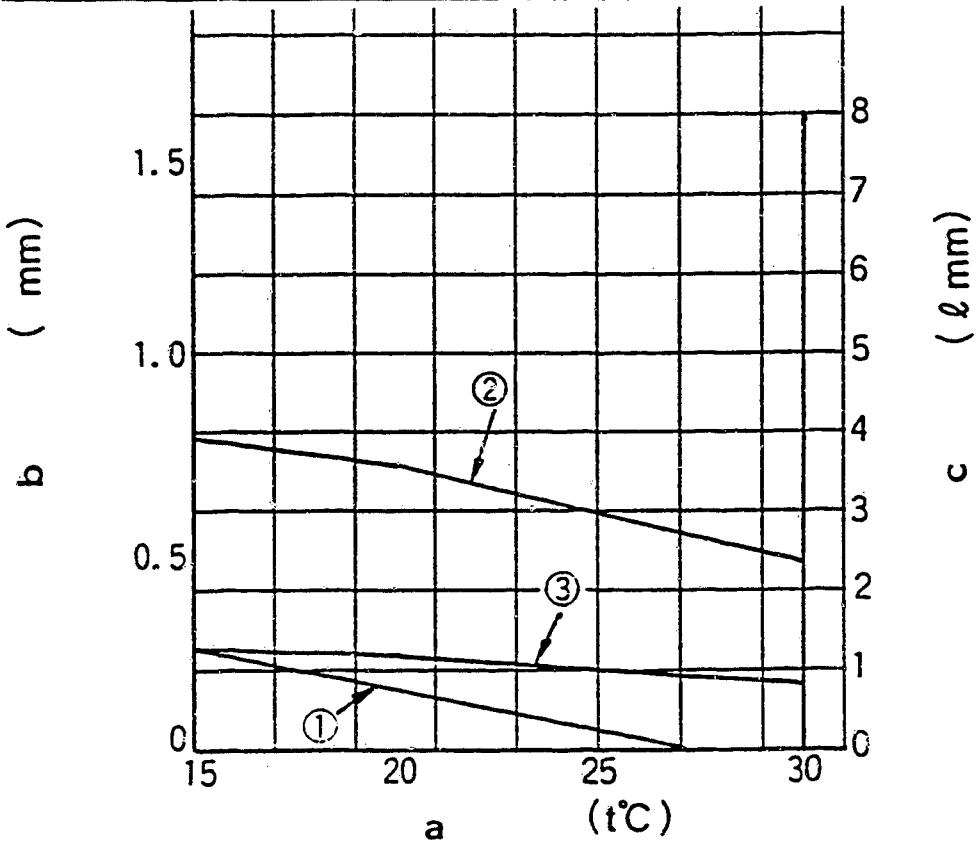

Figure 22
1) Calculate the timer stroke from Fig. 22 according to the atmospheric temperature at the time of adjustment.
- 1) Calculate the block gauge dimension $l \pm 0.05$ mm from Fig. 22 according to the atmospheric temperature at the time of adjustment.